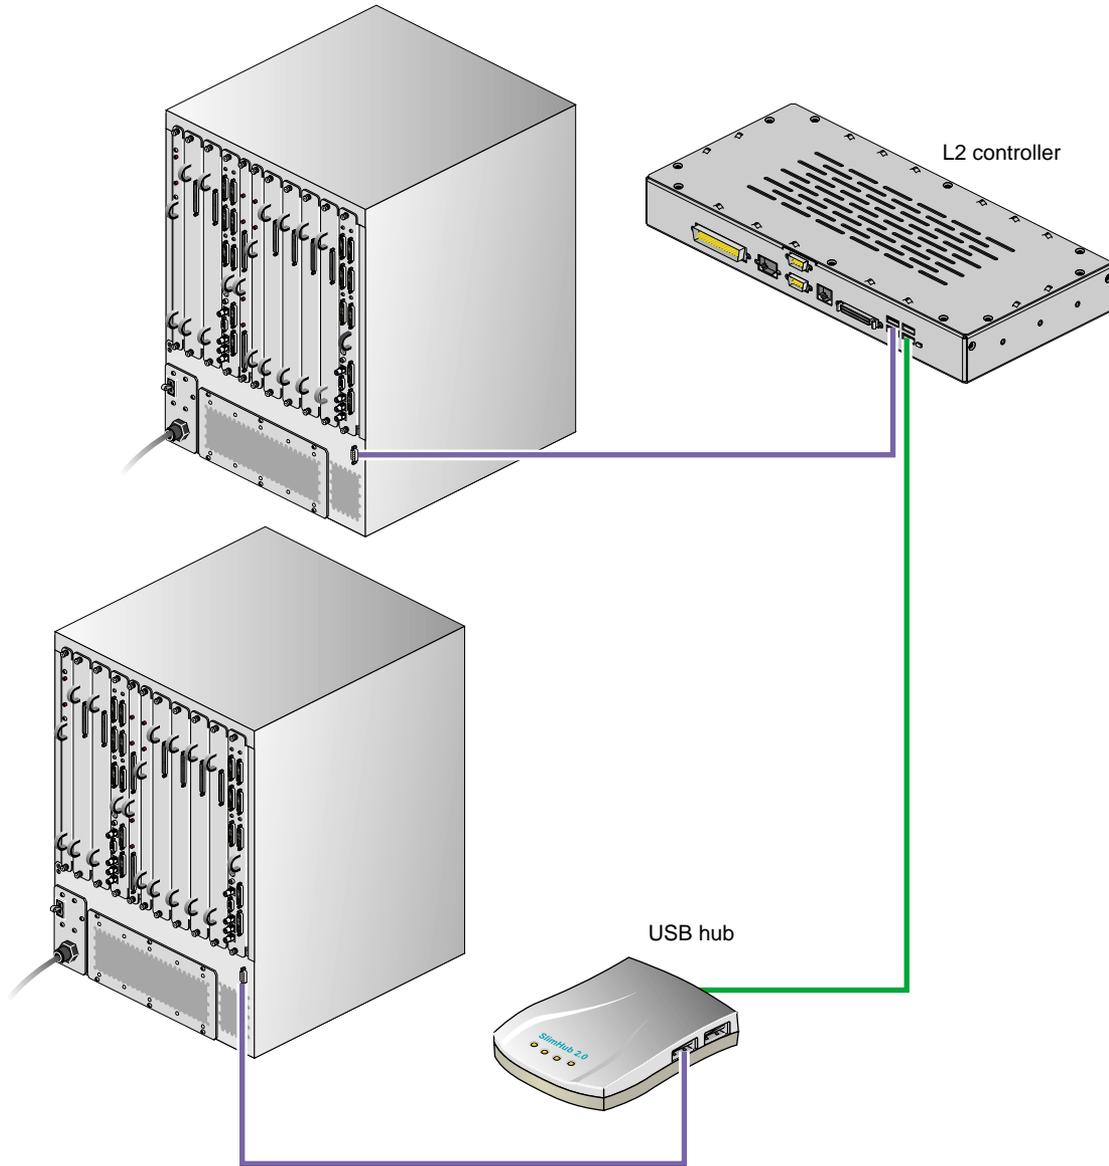

Figure 2-7 Example of Connections Between InfiniteReality and L2 Controller
2. Confirm that the cables between the L2 controller and the InfiniteReality graphics module are secure (see Figure 2-7)